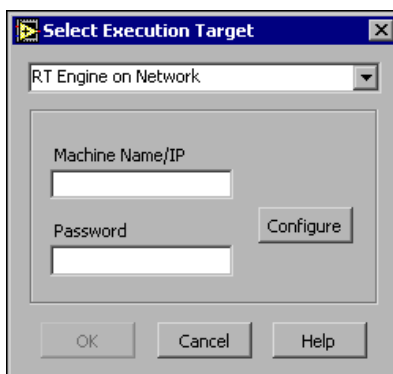

Figure 3-2. Select Execution Target Dialog Box
4. Select **RT Engine on Network** from the target list to enter a new networked device as shown in Figure 3-2.